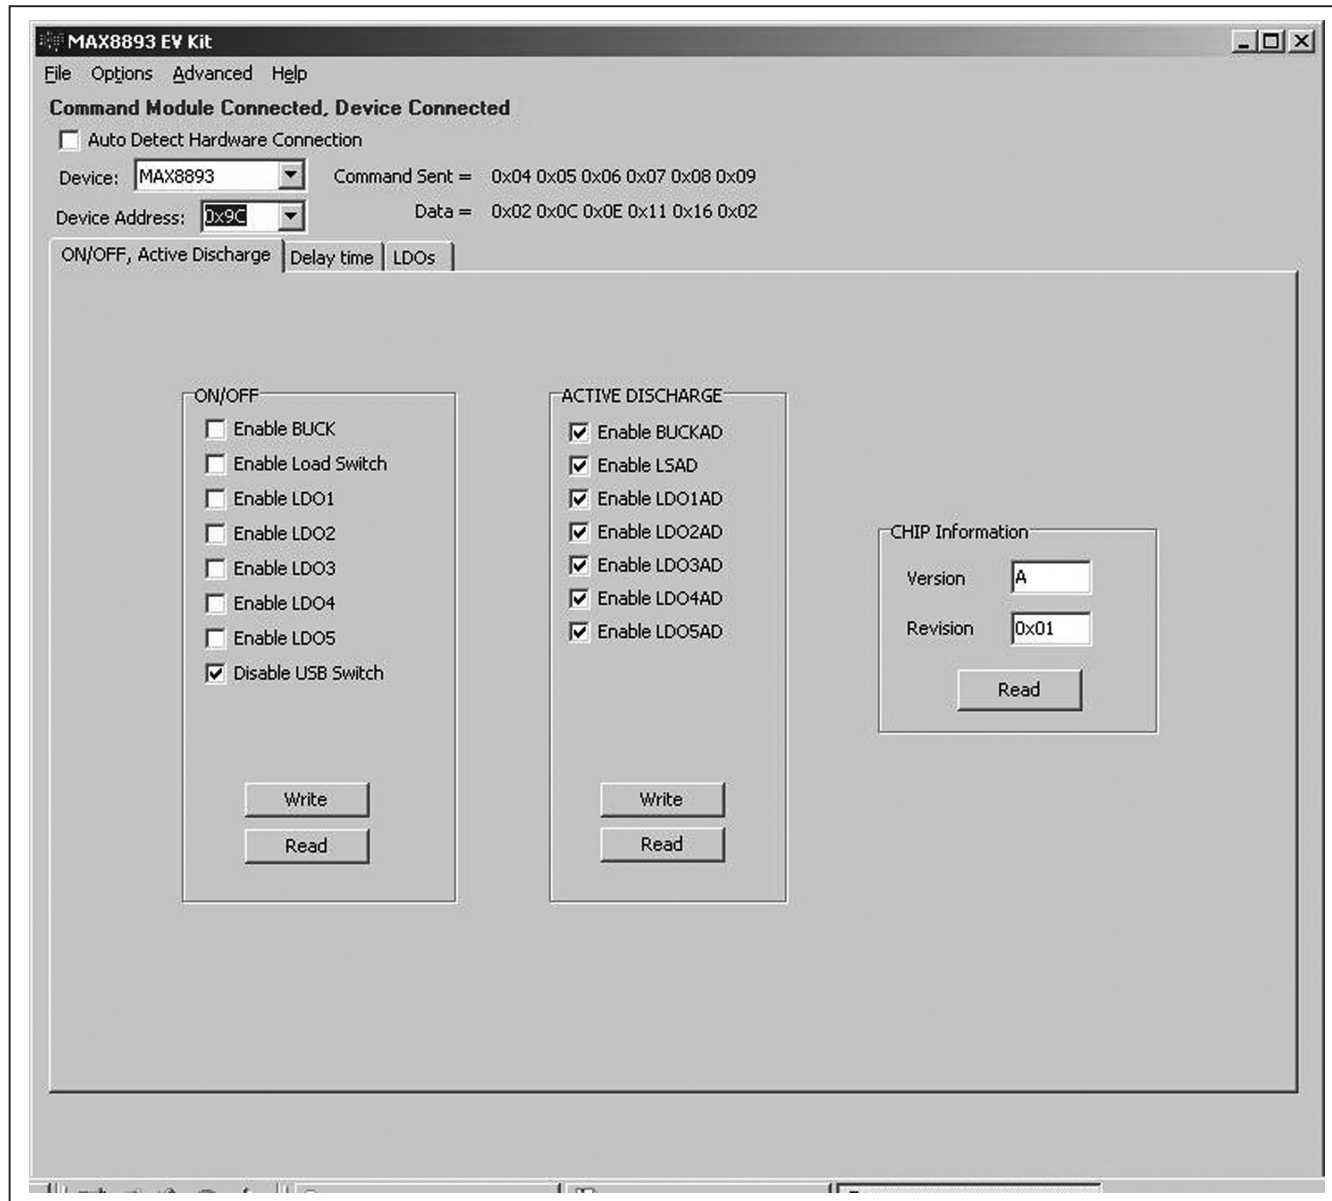
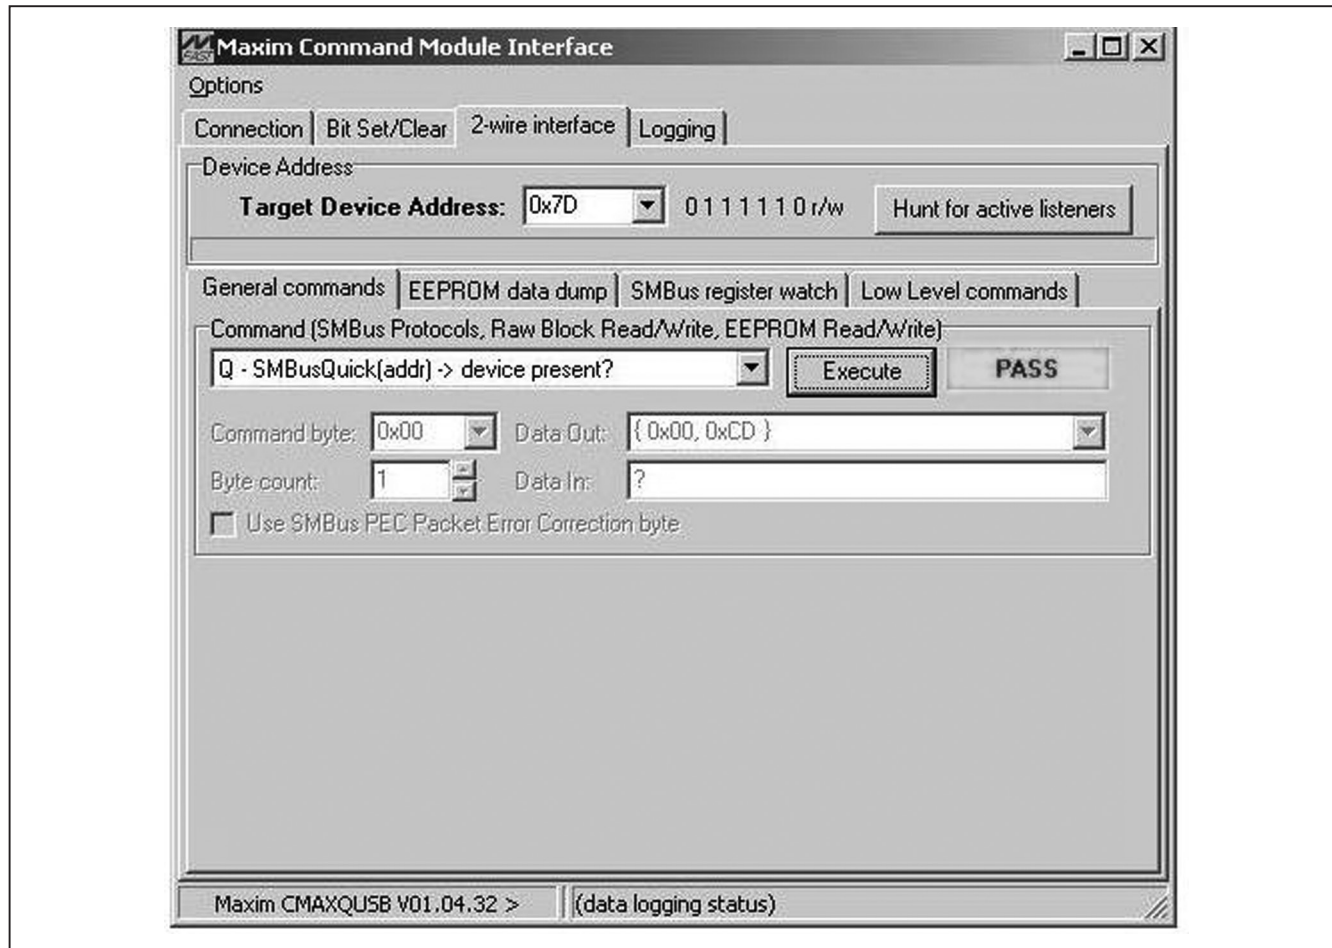

Figure 1. MAX8893 EV Kit Software Main Window
Figure 4. Maxim Command Module Interface Window
- 10) Start the MAX8893 program by opening its icon in the **Start | Programs** menu. The EV kit software main window appears, as shown in Figure 1.
- 11) Normal device operation is verified when **Command Module Connected, Device Connected** is displayed in the top-left section of the MAX8893A EV kit main window (Figure 1).
There are two methods for communicating with the MAX8893C, through the normal user-interface panel (Figures 1, 2, and 3), or through the SMBus commands available by selecting the **2-Wire Interface Window** menu item from the **Advanced** menu bar in the main window. The I²C/SMBus commands are used for debugging purposes. The **Maxim Command Module Interface** window (Figure 4) pops up and includes a **2-wire interface** tab that allows for execution of the **SMBusSendByte()** command. Refer to the MAX8893A/MAX8893B/MAX8893C IC data sheet for command-byte format. The **SMBus dialog** boxes accept numeric data in binary, decimal, or hexadecimal. Hexadecimal numbers should be prefixed by \$ or 0x. Binary numbers must be exactly eight digits. See Figure 4 for an illustration of this tool.